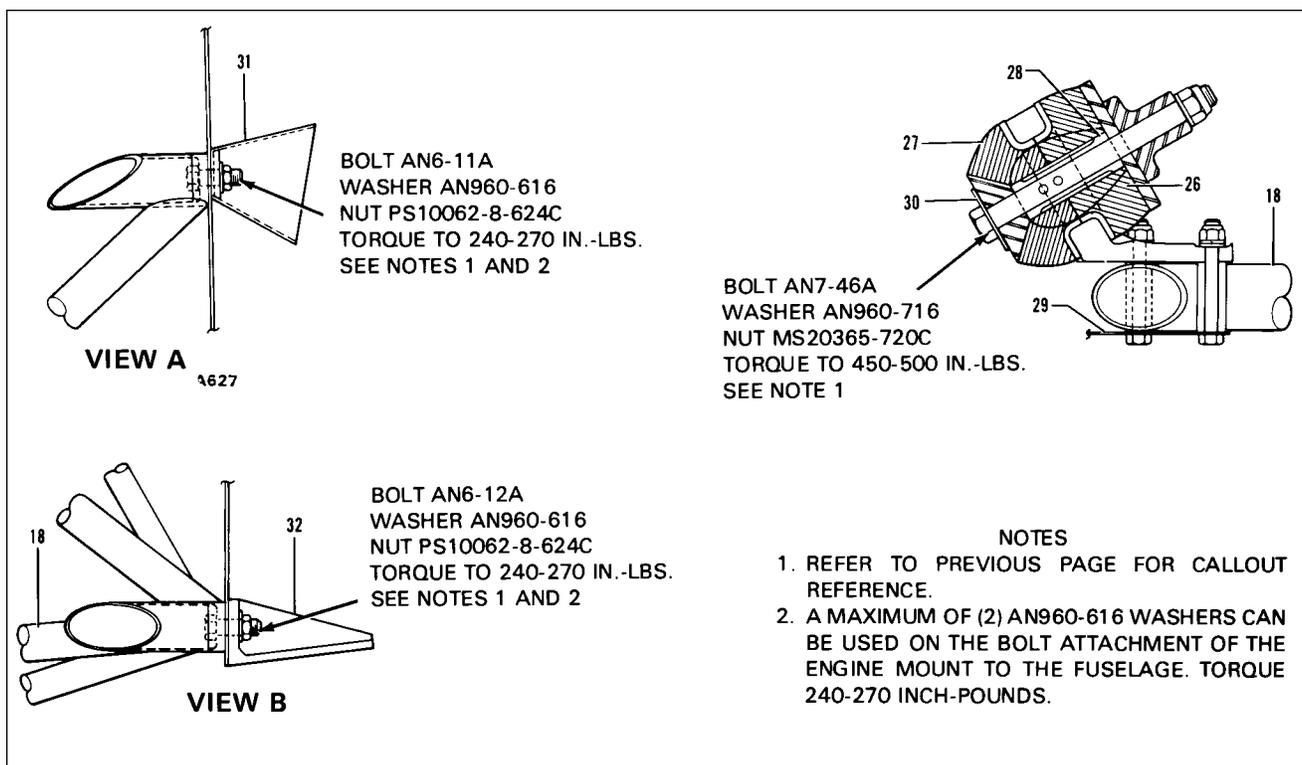

Figure 71-1. Engine Installation (PA-28RT-201T) (cont.)
**INSTALLATION OF ENGINE.** (Refer to Figure 71-1.)